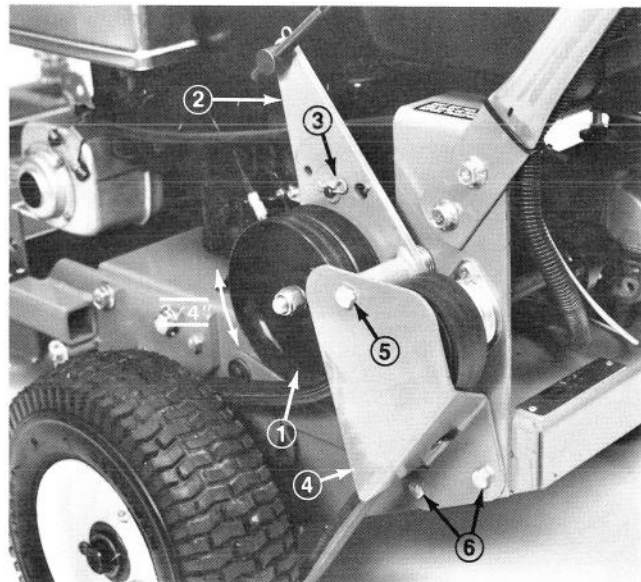

Figure 5
5. Check travel of idler pulleys when fully engaging wheel belts. Pulley travel should be approximately 3/4" (Fig. 5).